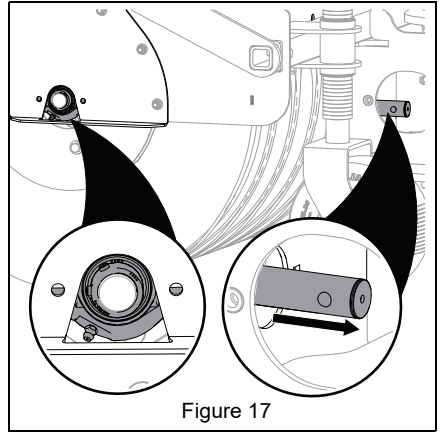

Figure 17
5. Insert gearbox shaft into hole in housing and align side carrier bearing mount holes with side housing holes. See Figure 17.